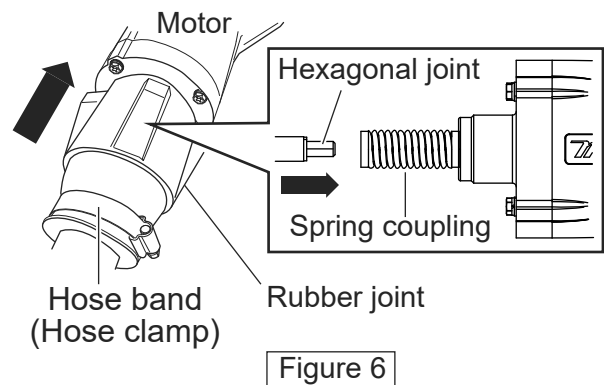

Figure 6
5. Install the hexagonal joint to the spring coupling, then install the rubber joint to the motor. (Figure 6)